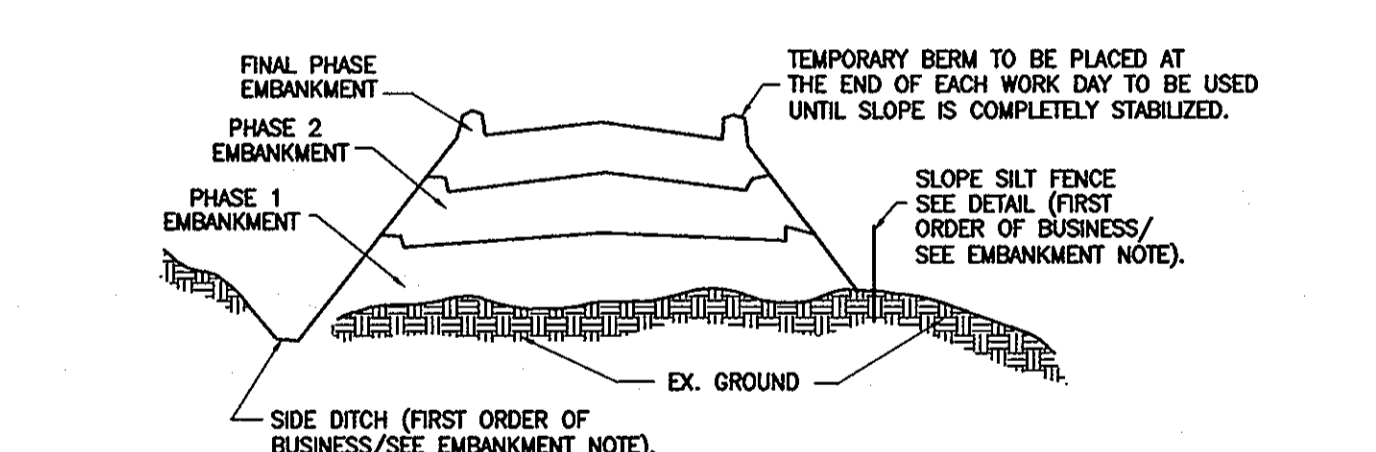

Figure 5 Incremental Stabilization - Embankment Fill Comply with MD 378 Specifications.
- iv. Construction sequence: Refer to Figure 5 (below):
- i. Select one or more of the species or mixtures listed in Table 26 for the appropriate Plant Hardiness Zone (from Figure 5) and enter them in the Temporary Seeding Summary below, along with application rates, seeding dates and seeding depths. If this Summary is not put on the plans and completed, then Table 26 must be put on the plans.
- i. Select one or more of the species or mixtures listed in Table 25 for the appropriate Plant Hardiness Zone (from Figure 5) and enter them in the Permanent Seed Summary below, along with application rates and seeding dates. Seeding depths can be estimated using Table 26. If this Summary is not put on the construction plans and completed, then Table 25 must be put on the plans. Additional planting specifications for exceptional sites such as shorelines, streambanks, or dunes or for special purposes such as wildlife or aesthetic treatment may be found in USDA-SCS Technical Field Office Guide, Section 342 - Critical Area Planting. For special lawn maintenance areas, see Section IV Sod and V Turfgrass.